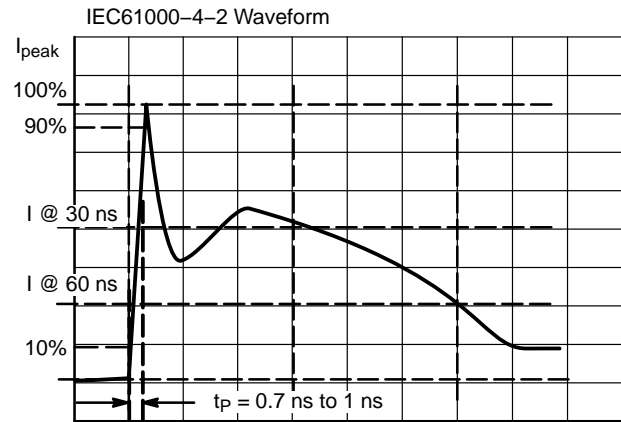

Figure 16. IEC61000-4-2 Spec
- For test procedure see Figure 16 and application note AND8307/D.